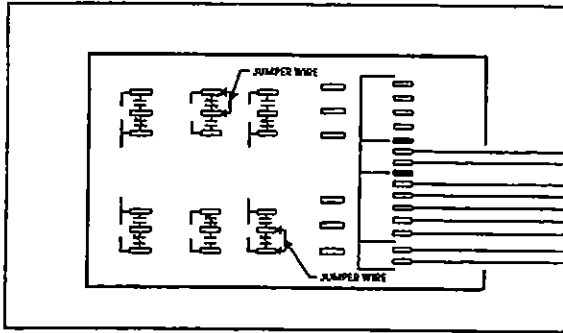

Figure 18: HVAC Logic Panel
3. Open the baggage compartment located at the right of the HVAC compartment door, unscrew the retaining screw on back wall of the compartment a quarter of a turn. Slide the "A/C and Heating Junction Box Sliding Drawer". Locate the **cooling contact 3** on the HVAC logic panel. Install a jumper wire between the central terminal of this stage and its normally-closed contact terminal as illustrated in Fig. 18. Locate the **cooling contact 2**. Install a jumper wire between the central terminal of this stage and its normally-closed contact terminal as illustrated in Fig. 18.